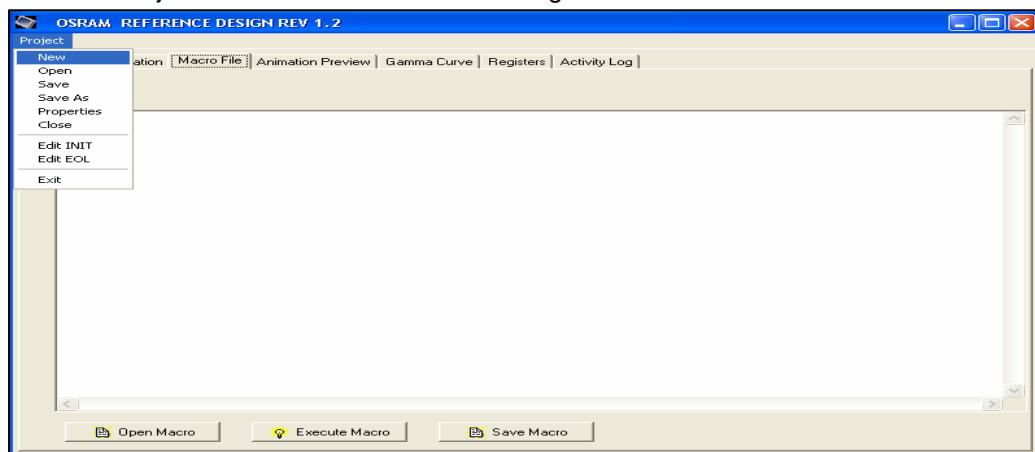

Figure 1
1. Select Project\New and click as shown in Figure 1.